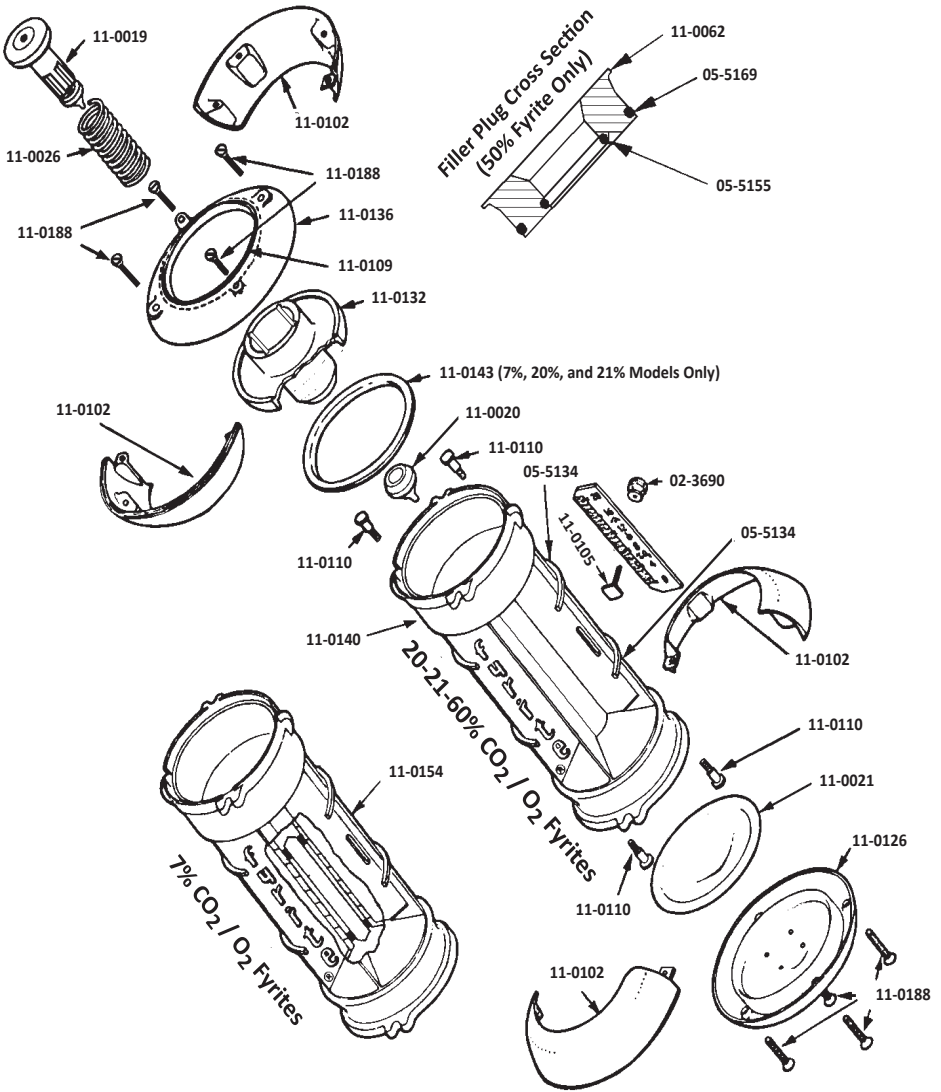

Figure 33. FYRITE parts breakout.
**CO2 / O2 FYRITEs:** Make certain that Top Cap Ring Gasket (11-0109, Figure 33) is in place between metal Top Cap Ring and plastic Top Cap. Draw the 4 machine screws down with light screwdriver force.
## 6.6 Replacing FYRITE Plastic and Rubber Parts (Refer to Illustrated Parts List FYRITE CO2/O2 [Section 7.0 and Fig. 33])
### 7.0 ILLUSTRATED PARTS LIST FYRITE CO2/O2 (Refer to Figure 33 FYRITE Parts Breakout)